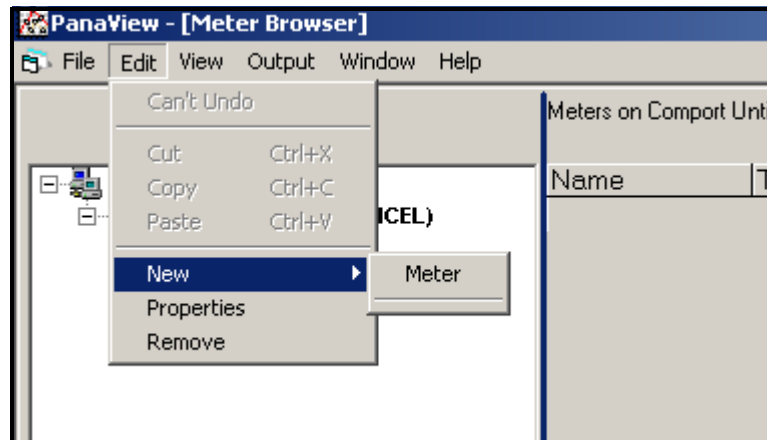

Figure C-4: *New* Option in the *Edit* Menu
2. Click on the *New* option in the *Edit* menu (see Figure C-4 below).